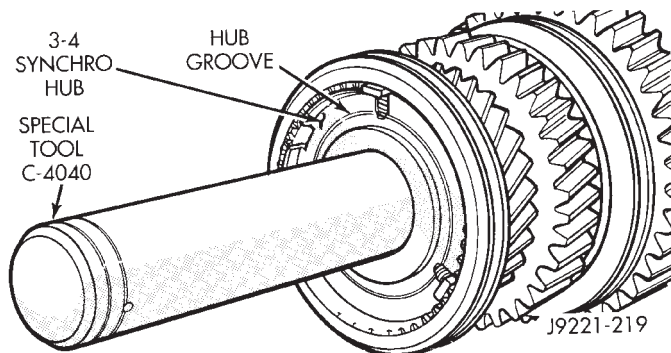

Fig. 112 Seating 3-4 Synchro Assembly On Mainshaft
(22) Start 3-4 synchro assembly on mainshaft. Ensure that the hub groove and the sleeve groove both face forward. Tap assembly onto shaft splines until hub is about 3 mm (0.125 in.) away from third gear stop ring. Then align stop ring with synchro sleeve and hub and seat synchro assembly with Tool C-4040 (Fig. 112).